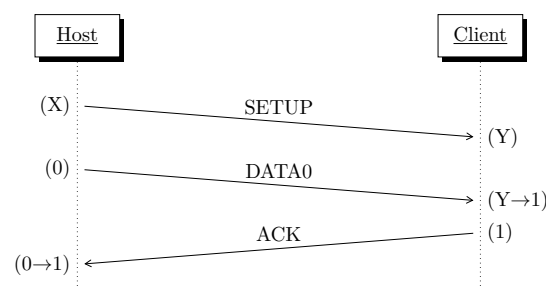

Figure 2.2: Synchronization of the data toggle sequence bits
B) To reduce the probability of errors during the handshake phase of a transaction, two data PIDs (DATA0 and DATA1) are used. The data PID is changed after every successful transmission. For that reason the sender and the receiver both have a „data toggle sequence bit“. At the receiver this only changes if correct data with a correct PID has been accepted. At the sender it changes when a valid ACK-Handshake is received. Both participants of a transmission first have to synchronize their bits during the setup phase of a control transfer (see Figure 2.2, the bracketed values correspond to the value of the “data toggle sequence bits”; at X/Y they are still undefined).